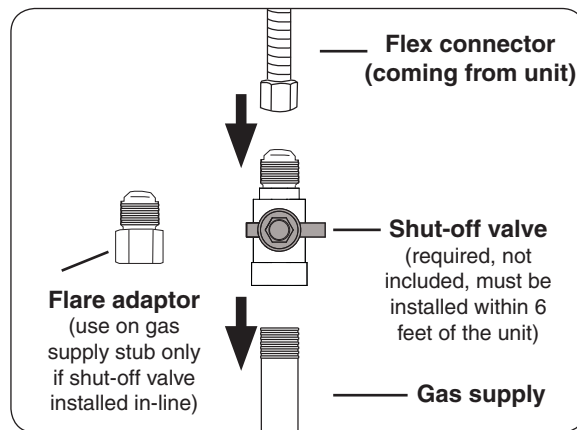

Fig. 21-1 Connecting to a gas line
- Connect the flex connector to the shut-off valve (see Fig. 21-1). Tighten securely.
- Install the supplied flare adaptor to the gas supply using a pipe joint compound resistant to all gasses (see Fig. 21-1). Tighten securely.
- Connect the flex connector to the flare adaptor (see Fig. 21-1). Tighten securely.